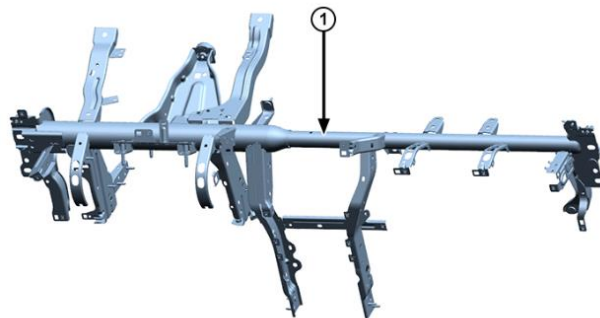

Figure 19 – Instrument Panel Carrier
39. Disengage the wire harness retainers and remove the wire harness from the instrument panel carrier (Figure 19).
40. Discard the old instrument panel carrier (cross car beam) (Figure 19).
2. Transfer the wiring harness to the new instrument panel carrier, carefully checking harness attachment points and routing (Figure 19).